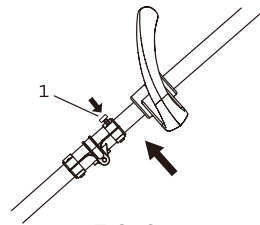

FIG. 6
4. Insert the screw into the shaft Fig.6 (1) and then tighten the screw with the Allen key supplied Fig. 6 (2) to lock the shaft into place.